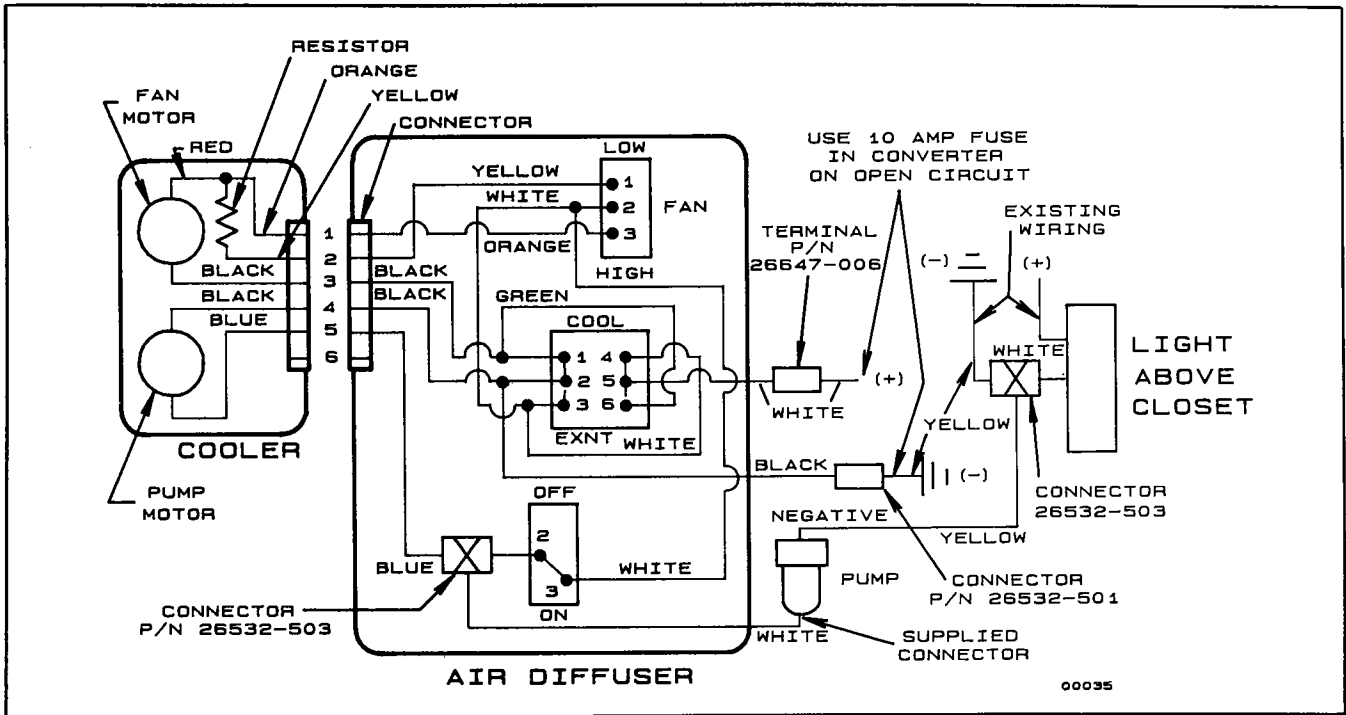

Figure 30. Wiring
7. Connect wiring (figure 30).